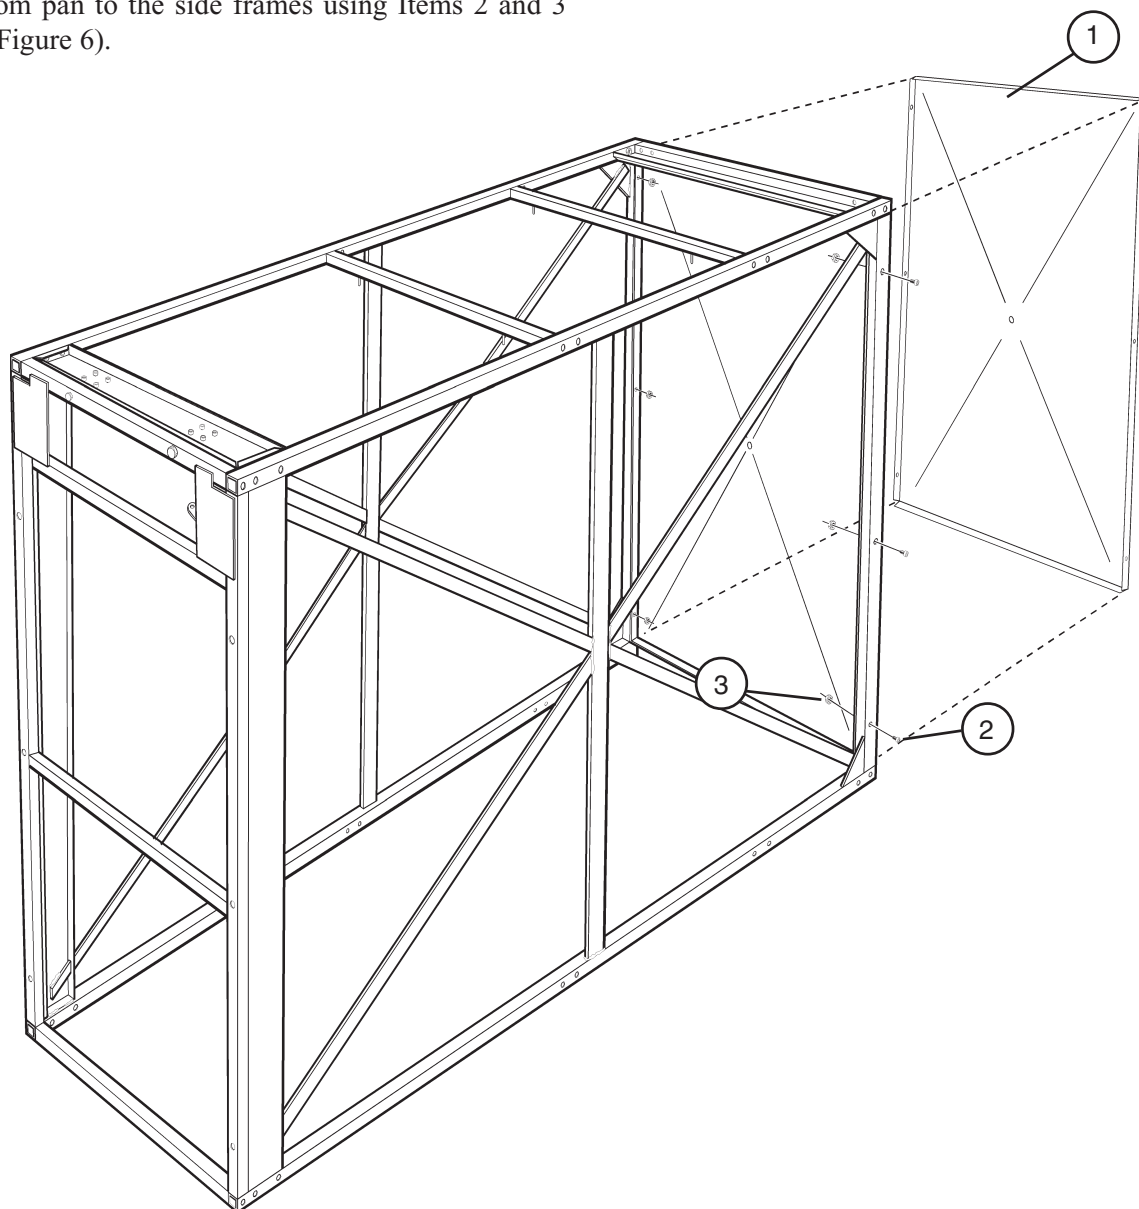

Figure 6: Inserting the Bottom Pan
Step 5: Insert the bottom pan (Item 1) between the side frames of the rack. Be sure that the flanged edge is facing the top of the rack. Fasten the bottom pan to the side frames using Items 2 and 3 (Figure 6).